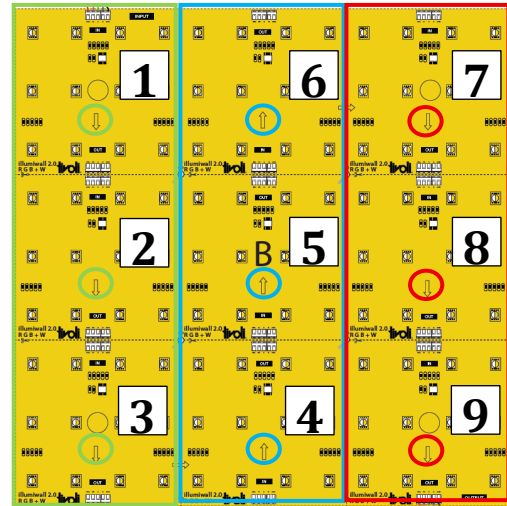

Figure 5 Configuration B
- For a 3x1 section, cut out #1, #2, & #3; #4, #5, #6; or #7, #8, & #9 [Figure 5].